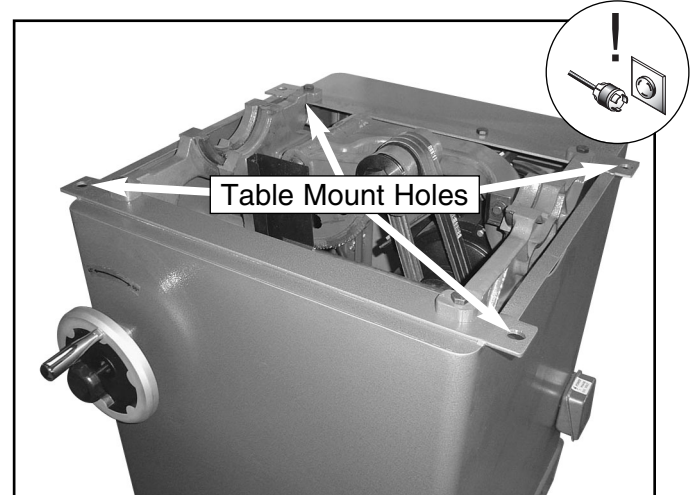

Figure 23. Table mounting bolt holes.
5. If the gap between the blade and the adjustable square is greater than .004", loosen the table mounting bolts shown in **Figure 23** and adjust the table. Note—If you don't have a .004" feeler gauge to measure the gap, a dollar bill is approximately .004".
8. If the blade was parallel to the miter slot at 90° but not at 45°, the table will need to be shimmed with metal shim stock. The shims are placed under the table over each of the four table mount holes shown in **Figure 23**.